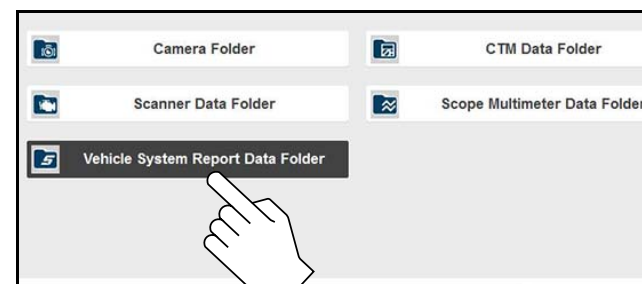

Figure 5-25
2. Select and open the Vehicle System Report Data Folder (Figure 5-25).